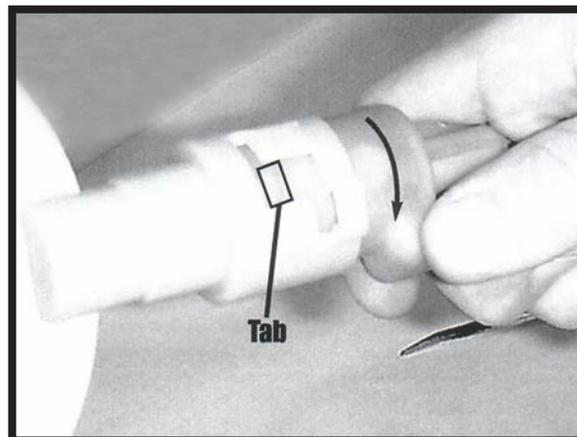

FIGURE 10-3
6. ROTATE THE VALVE COUNTERCLOCKWISE TO THE FIRST STOP. (FIGURE 10-3)